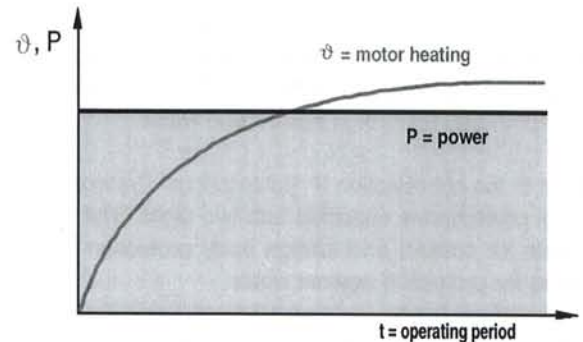

Fig. 1.8.1 Permanent mode S1
- In **permanent mode S1** (see Fig. 1.8.1) the operating duration at rated load is so long that the steady state temperature is reached. These motors are suitable for permanent operation, i. e. they may be operated „permanently“ with their rated load.